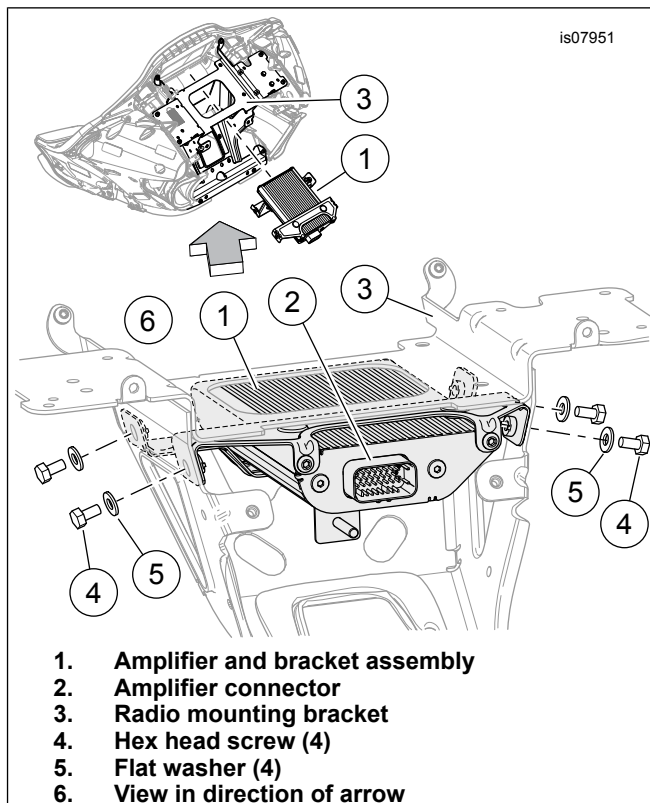

Figure 3. Amplifier Installation
3. See Figure 3. Install the amplifier.
- a. Get the four hex head screws (4) and flat washers (5) from the kit.
- b. Slide the amplifier and bracket assembly (1) into location on the underside of the radio mounting bracket (3) as shown, with the connector (2) facing out. *NOTE: Radio removed to show detail.*